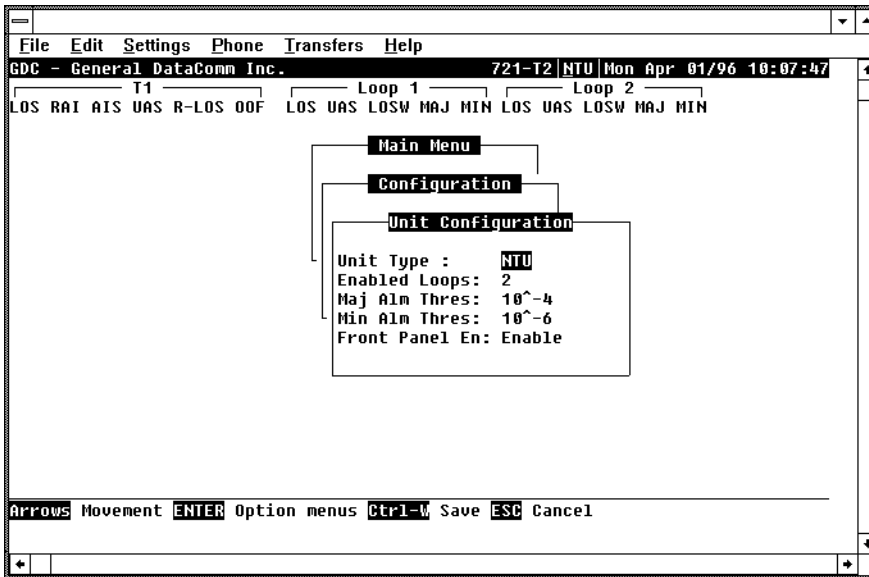

Figure 3-10 Unit Configuration Screen
The Unit Configuration option displays the Unit Configuration screen, showing the HDSL configuration parameters of the 721-T1/T2. A typical screen is shown in *Figure 3-10*.
3. To reset the selected fields to the default values, press `Ctrl-D`. Default values are shown in *Figure 3-10*.